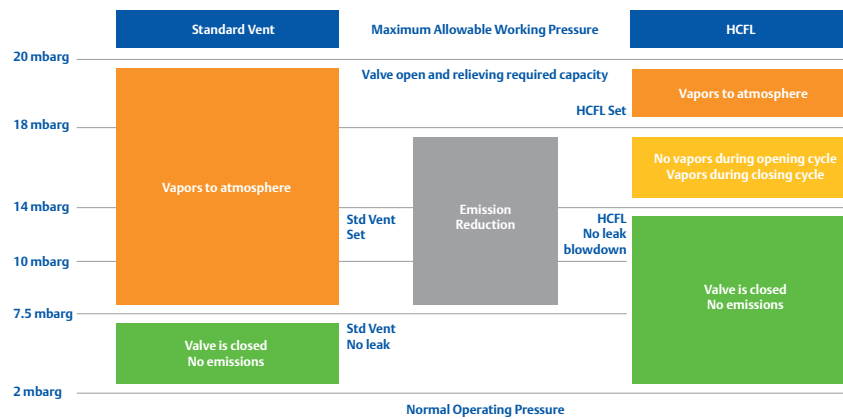

Figure 3. Diagram depicting how HCFL can be set higher and open later to minimize emissions and product loss
- 10% overpressure technology:** As per API 2521, Breathing losses from independent tanks can be minimized with the use of vent settings that are as high as possible. To meet this goal of emission reduction, Emerson’s Anderson Greenwood™ series full lift vents utilize 10% overpressure technology, which provides short opening and closing pressure ranges, allowing tank pressure to be set higher (closer to MAWP and MAWV) to achieve the same flow. (Refer to Figure 3). Additionally, since the valve is set higher, there is less leakage when the valve is closed during normal working pressures in the tank.